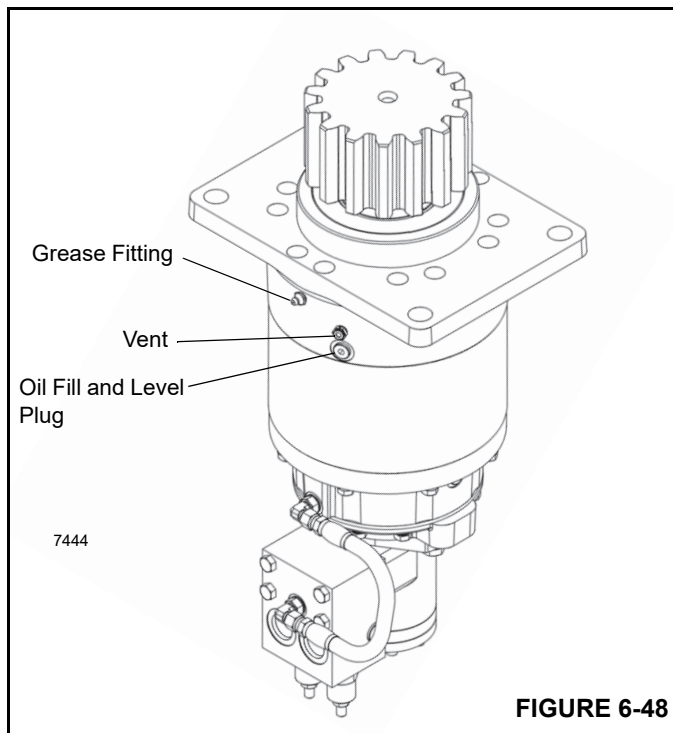

FIGURE 6-48
1. Clean around the swing gear box drain, check and fill plugs (Figure 6-48).